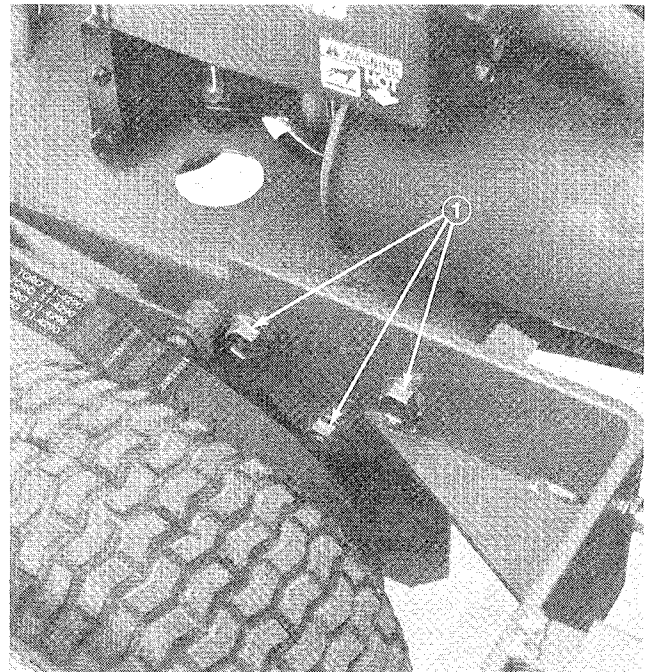

Figure 2
1. Align lift arm mounting holes with mounting holes in traction frame. Secure each side with three flange screws and locknuts (Fig. 2). Bottom locknut to be positioned outside of frame. Torque fasteners to 60-80 ft.-lb. (81-109 N-m).